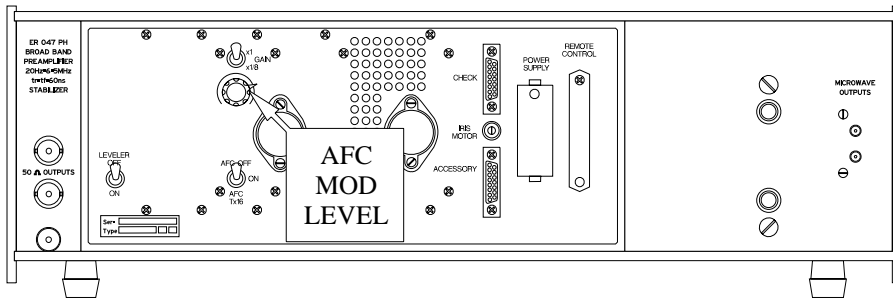

Figure 9-1 Location of the AFC MOD LEVEL potentiometer
4. **Set the AFC depth.** You can find the AFC depth adjustment knob on the back of the microwave bridge. (See Figure 9-1.) Full scale is ten. Set the AFC depth (or amplitude) at around 2.